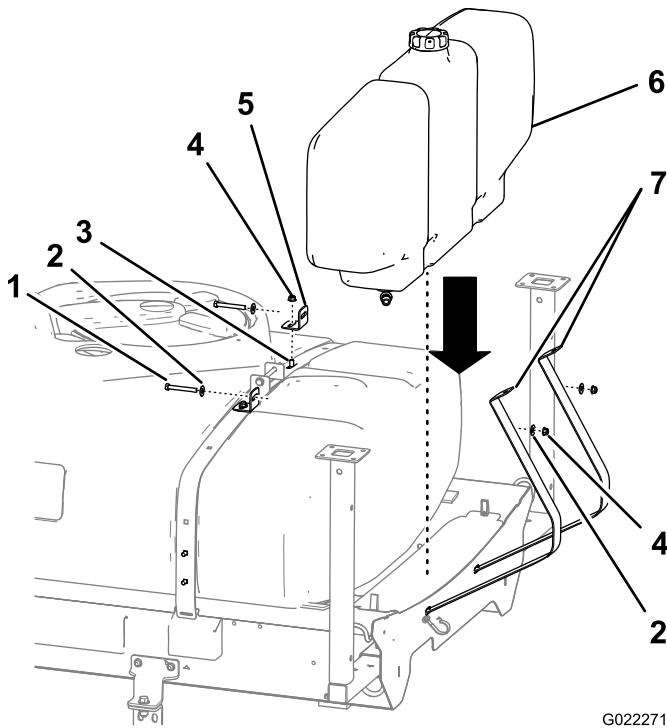

Figure 3
1. Install the rinse tank as shown in Figure 3.
2. Using 2 flange nuts, install the rinse tank brackets to the 2 carriage bolts in the tank straps (Figure 3).
4. Connect the rinse tank straps to the brackets using 2 bolts, 2 flange nuts, and 4 large washers as shown in Figure 3.